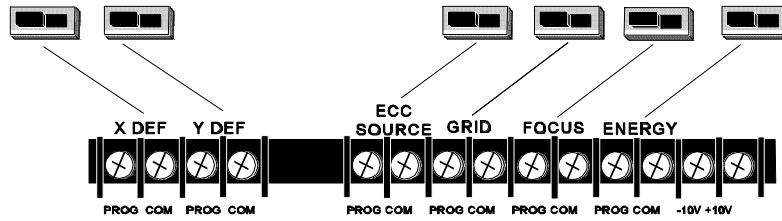

Figure 4.4.2: EGPS -7 Interior Local/Remote switches, shown in local mode (left), with their respective exterior terminals (including optional deflection)
- d. Change the position of the switches from L (Local=left) to R (Remote=right) as viewed from the rear of the Power Supply. **Set switch for each of the supplies to be remotely controlled.** (See Figure 4.4.2 below.) Separate, optional Power Supply units may have additional remote terminals and switches to be changed.